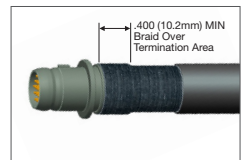

Fig. 2
2. Push braid forward over adapter retention lip to the adapter incline point (or .4" [10.2mm] minimum braid length). Milk braid as required to remove slack and winsure a snug fit around the shield termination area (Figure 2).